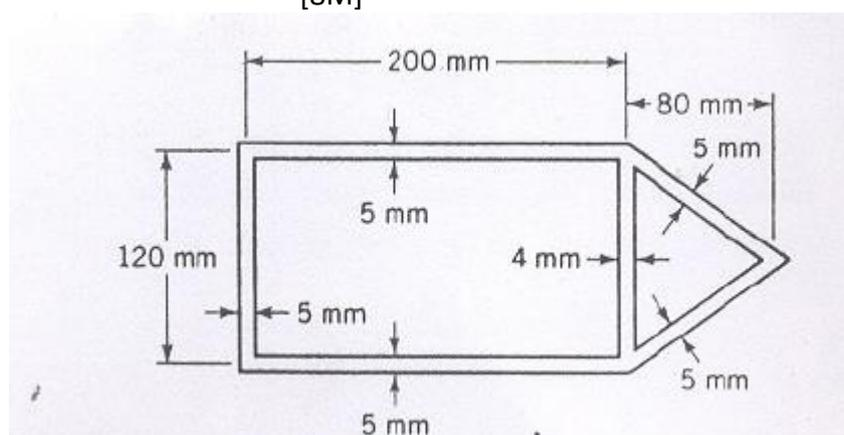

Fig.3
- b) The aluminum ($G=27.1\text{GPa}$) hollow thin walled torsion member has shown dimensions in Fig.3. Its length is 3m. If the member is subjected torque of 11KN-m, determine the maximum shear stress and angle of twist. [8M]